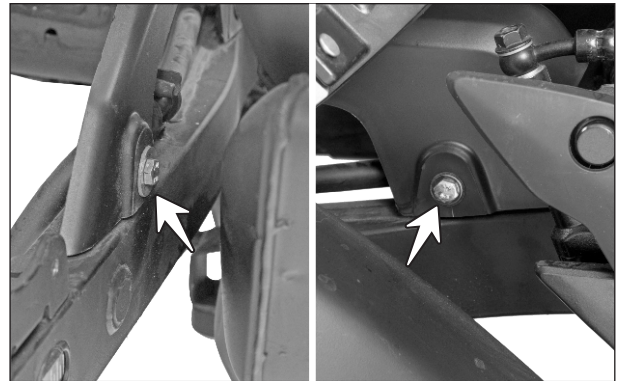

Fig. 6.134
- Remove the hexagonal bolts (M6x20 - 4 nos.) along with the washers from the chain guard assembly and gently dislocate the chain guard. (Fig. 6.134 & 6.135)